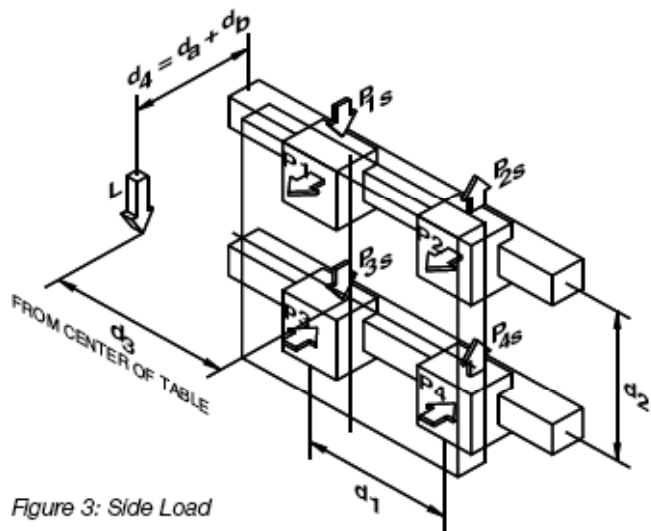

Figure 3: Side Load
Consider a positioner as shown in Figure 3, which involves a lateral (side) load applied to the carriage which translates horizontally. The load vector (L) is shown applied at a point whose coordinate distances from the center of the carriage bearing system are given by dimensions d3 and d4. Note that d4 is the sum of distance da—the distance between bearing and center and carriage surface which is provided for each linear positioner—plus db, the distance of the load CG from the mounting surface of the carriage.